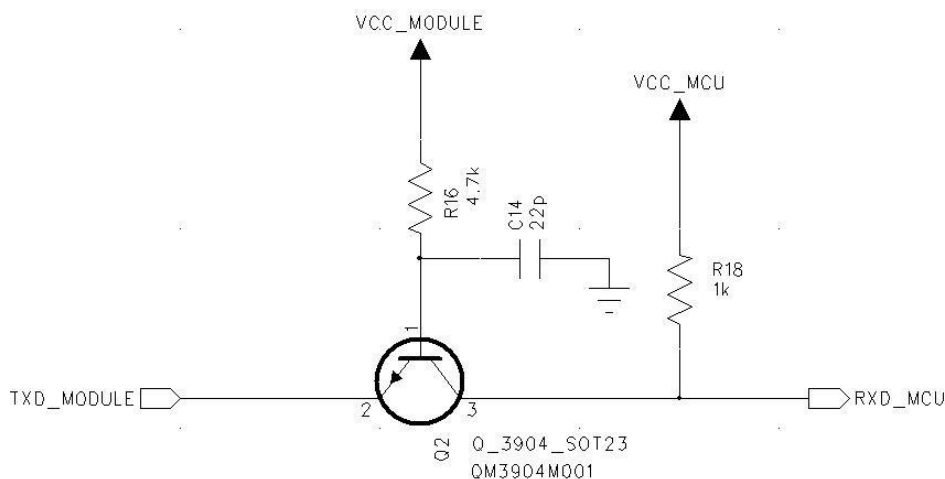

Figure 6-4 RX Level Translation Reference Design for UART Interface
3. Single chip microcomputer is used as upper computer: if the power supply of single chip microcomputer is inconsistent with the power supply of module, level conversion chip is required. for example, as shown in fig. 6-4/6-5, triode is used to realize level conversion. The diode in the figure is a Schottky diode (the forward voltage drop is 0.3V). If you choose other diodes, please choose the forward voltage drop small to ensure that the RXD_module level is below the low level input threshold when the input is low.